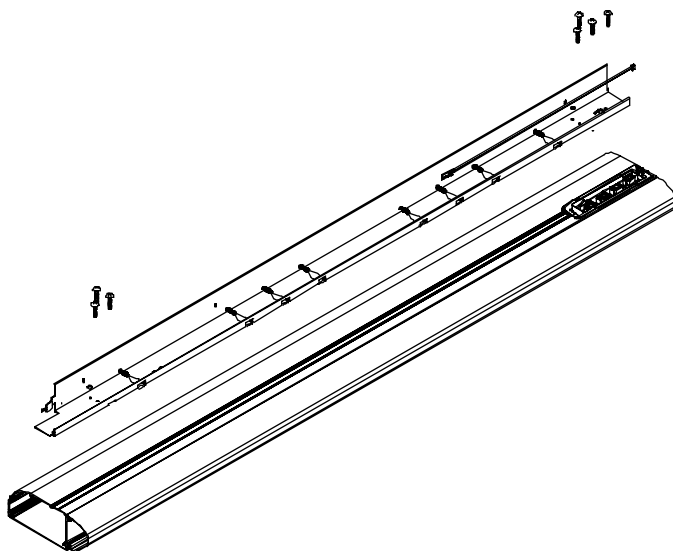

Figure 5-22. Y-Arm Installation/Removal.
7. Remove the seven screws that secures the Y-Arm Assembly to the Platen. See Figure 5-22.